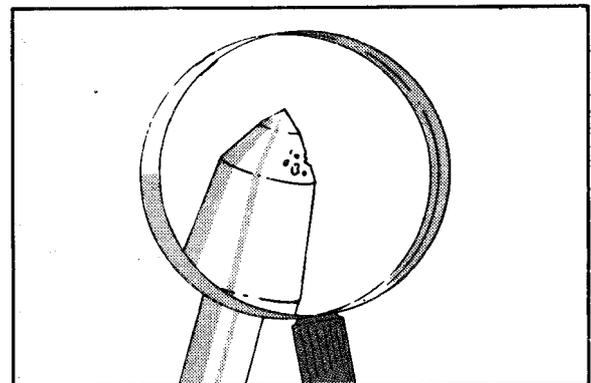

Figure 7-9
5. Clean nozzle up with brass brush (Figure 7-9).